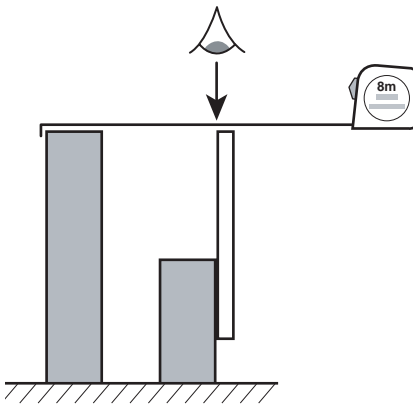

Figure 2 Avoiding parallax
- Don't try to estimate the reading if the tape cannot be in contact with the measured point (project the point up vertically to meet the tape, so avoiding parallax, see Figure 2).